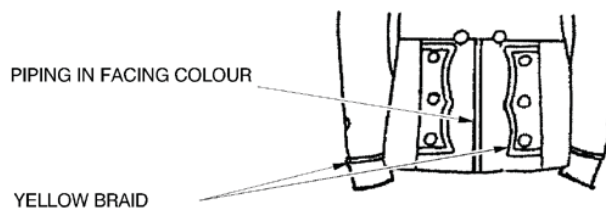

Figure 6-1 Full Dress – Universal Pattern
4. Universal full dress patterns are illustrated in Figure 6-1, and undress patterns in Figure 6-13. Rank group differences apply only to full dress.